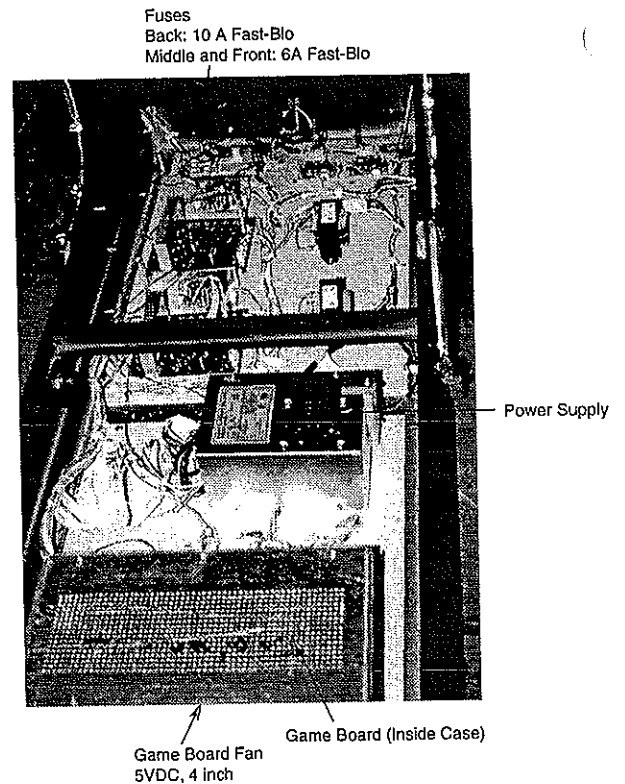

FIGURE 29: GAME BOARD, POWER SUPPLY, AND FUSE REPLACEMENT
9. Perform any necessary servicing - see Figure 29 for component locations.